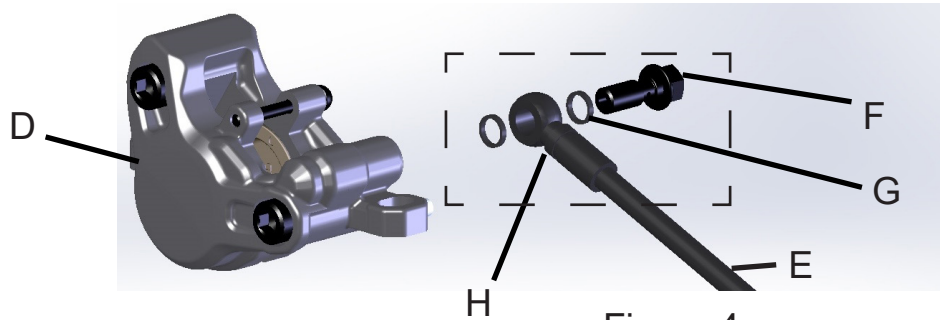

Figure 4
- 10) Position the caliper (D) directly over the drip pan and remove the banjo bolt (F) using the 8mm wrench to disconnect the brake line.
- 11) Install the brake line (E) to the new caliper (D) making sure to utilize an O-ring (G) on each side of the banjo fitting (H) and tighten to 60 +/- 5 in/pounds of torque (Figure 4).
- 12) Wipe up any brake fluid that has leaked on the caliper (D).